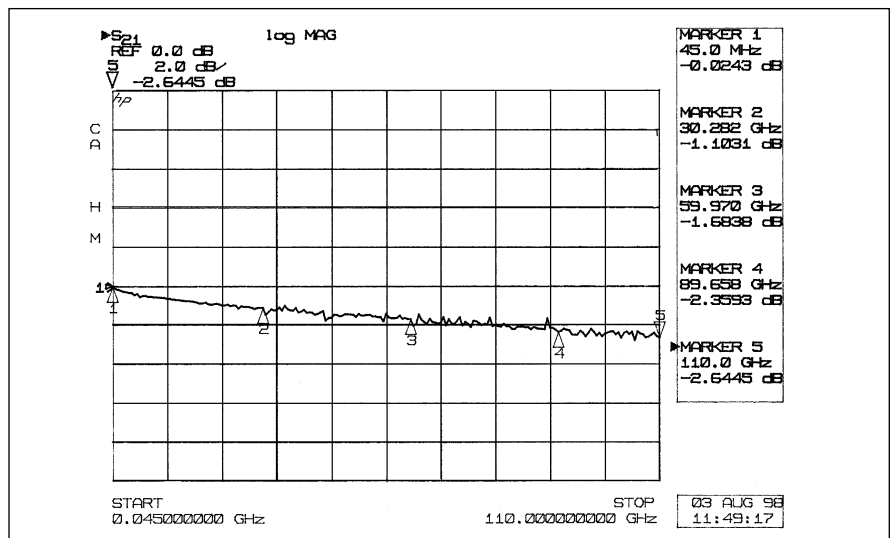

Figure A1. Insertion loss (versus frequency) of a typical HP 11500J 1.0 mm test port cable.
2. Insertion loss (S_{21}) of a test port cable was characterized (see Figure A1). In this case, the test port cable is the DUT.